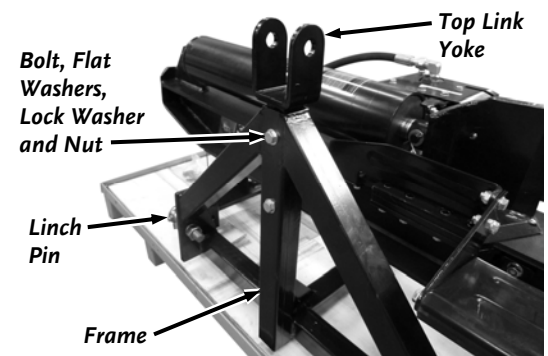

Figure 5
3. Install the Top Link Yoke into the Frame and secure with The Bolts, Lock Washers, Flat Washers and Nuts using a 18mm Wrench on the Bolt and a 19mm Socket on the Nut (**Figure 5**).